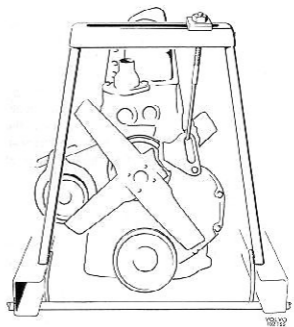

Fig. 11. Lifting tool SVO 2727
- Fit the plate of the lifting tool SVO 2727 at the upper bolt for the timing gear casing. Remove the washer.) Place the lifting tool and fix the hook in the plate according to Fig. 11. Raise the front end of the engine until there is no weight on the engine mountings. Remove the oil dipstick.